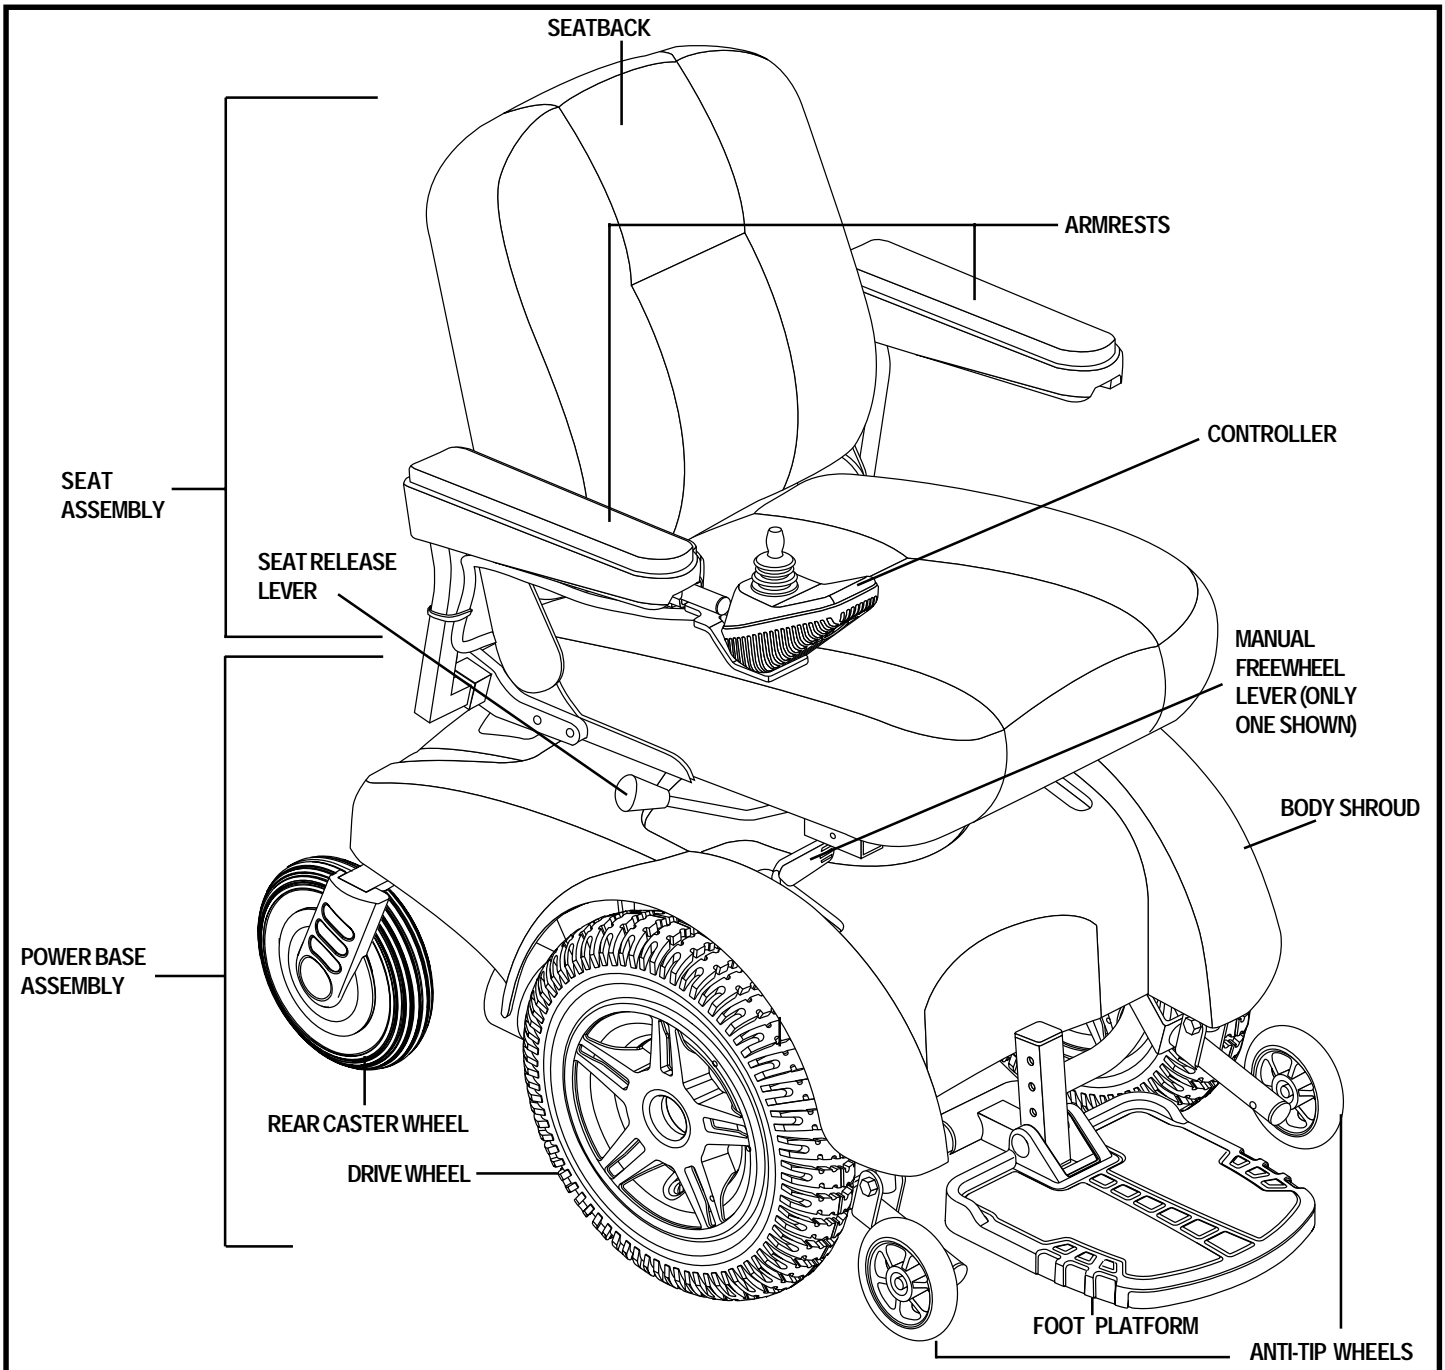

Figure 5. The Jazzy Select 14XL
Your power chair has two main assemblies: the seat and the power base. See figure 5. Typically, the seating system includes the armrests, the seatback, the seat base, and the joystick/controller. The power base assembly includes two drive wheels, two anti-tip wheels, two rear caster wheels, a body shroud, four frame assemblies (located under the body shroud), two battery boxes, and the electrical connectors. See figures 5 and 6.
4. Disengage the seat release lever. See figure 5.